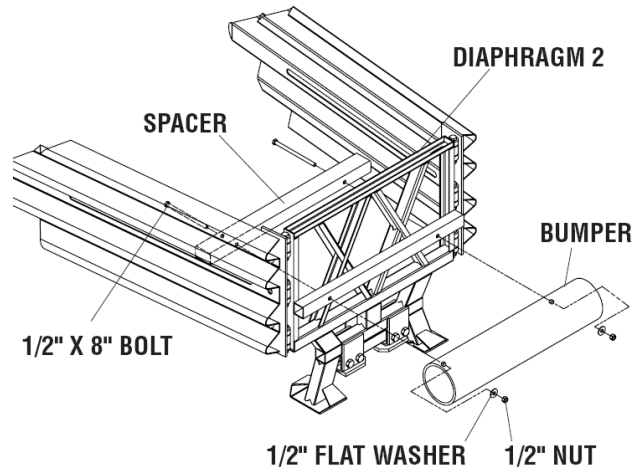

Figure 64
- B. Using 1/2" x 8" bolts, 1/2" flat washers and 1/2" nuts, attach Bumper to front, and spacer to rear of Diaphragm 2 as shown in Figure 64.